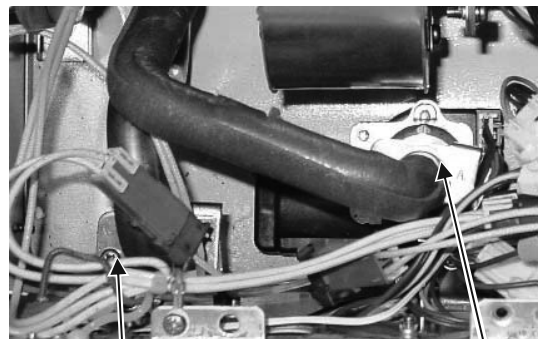

Figure 30
Disconnect Water Lines (Figure 30)
21. Install the largest O-ring (included in kit) over the water outlet tube and the two smaller O-rings (included in kit) over the bypass servo tubes. (Figure 30)
Connect Water Lines (Figure 30)